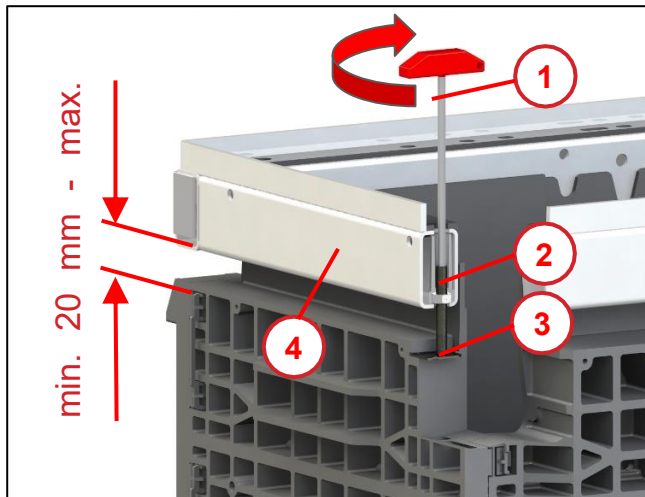

Fig. 37
- Place the steel frame (1) back on the manhole.
Push the set screws (2) from the earlier height adjustment through the dry mortar (3) while it is still soft, until they are back in contact with the support plate (see Fig. 37 item 3).